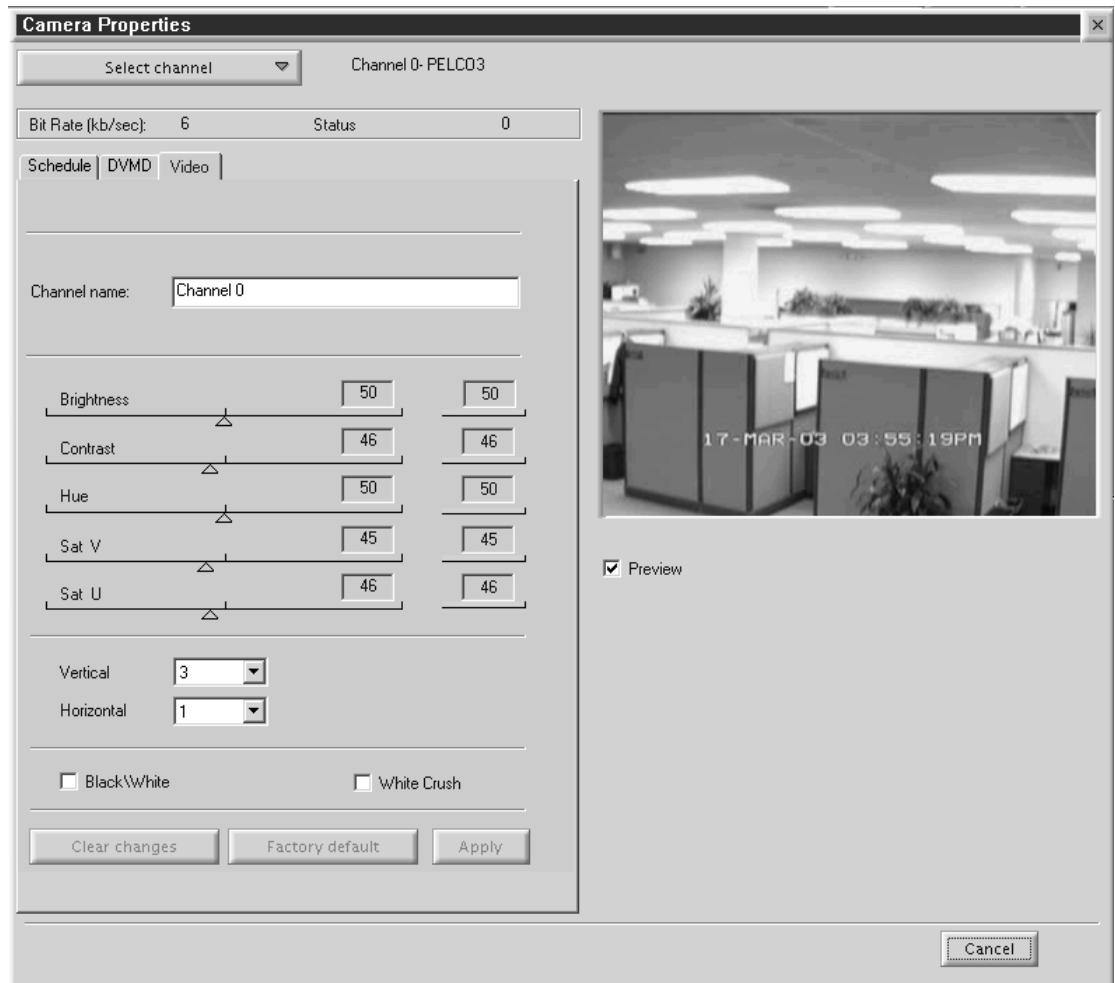

Figure 66. Camera Video Setup Page
1. Click the Video tab. The Video page appears. Refer to Figure 66.